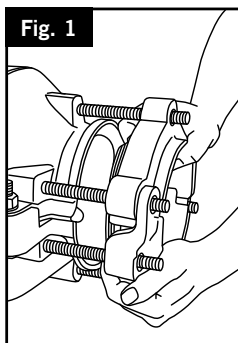

Fig. 1
- 1) Place the EasiFit on a clean surface for disassembly. Remove the nuts and washers from the studs on both ends; this allows the End Rings and split gaskets to be removed. Place all components to the side and retain. (FIG 1)